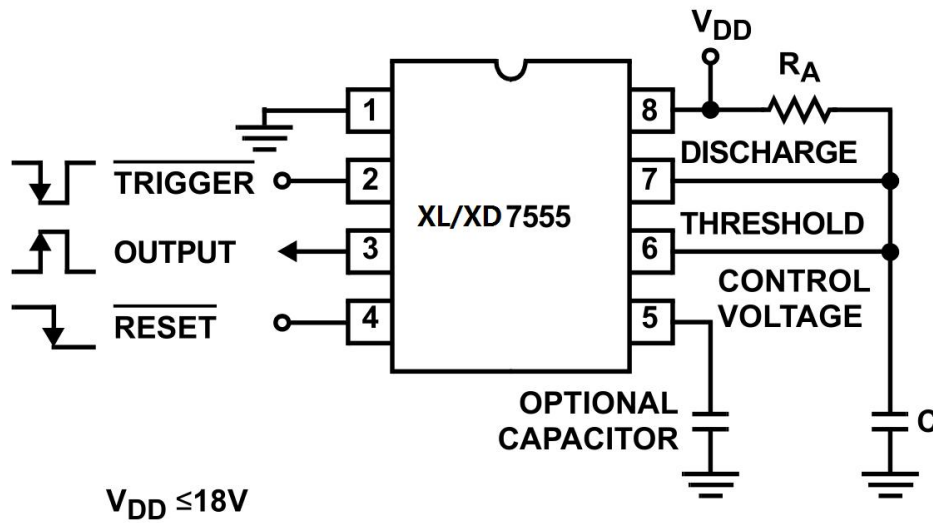

FIGURE 6. MONOSTABLE OPERATION
In this mode of operation, the timer functions as a one-shot (see Figure 6). Initially the external capacitor (C) is held discharged by a transistor inside the timer. Upon application of a negative Trigger pulse to pin 2, the internal flip-flop is set, which releases the short-circuit across the external capacitor and drives the Output high. The voltage across the capacitor now increases exponentially with a time constant  $t = RAC$ . When the voltage across the capacitor equals  $2/3 V+$ , the comparator resets the flip-flop, which in turn discharges the capacitor rapidly and also drives the OUTPUT to its low state. Trigger must return to a high state before the OUTPUT can return to a low state.